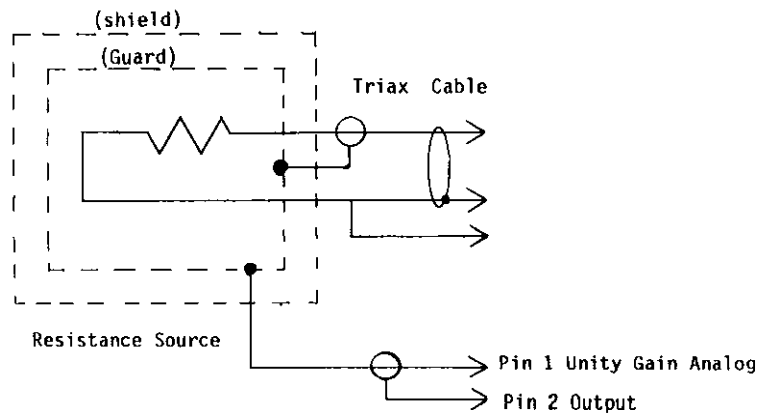
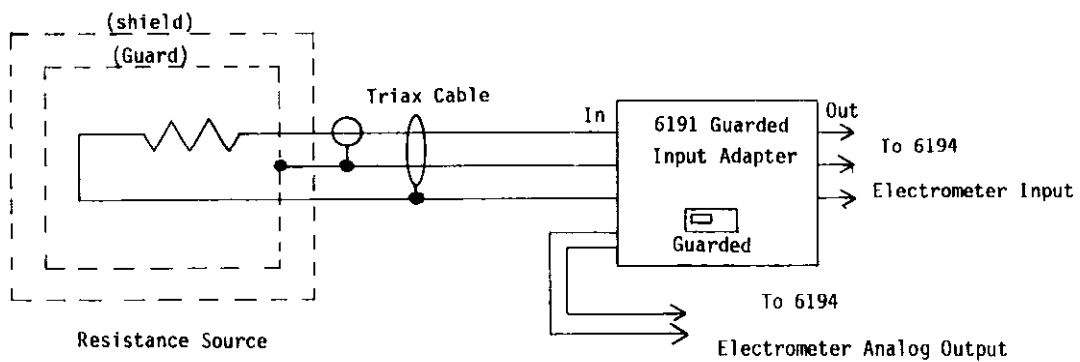

Figure 4-2. Resistance Source Shielding and Guarding
Figure 4-3. Measuring Resistance Sources Using Model 6191
- For ohms sources greater than 200M Ω the resistance should be both guarded and shielded. The shield prevents noise injection into the measurement and the guard reduces response settling times (see Figure 4-2). This can also be accomplished by using Model 6191 Guarded Adapter (see Figure 4-3).